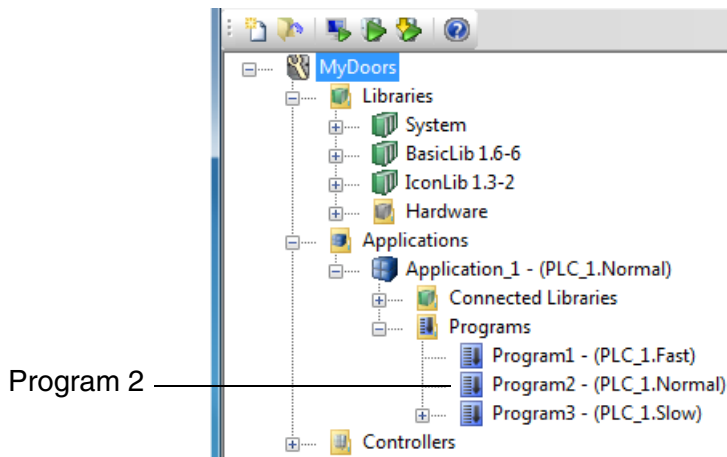

Figure 21. Programs folder expanded with three preset programs available
1. In the Project Explorer, expand the project tree to see **Program2**, (Figure 21). Double-click the icon to open the Program editor.
Make sure the program editor is open, (see Figure 21, to open editor)